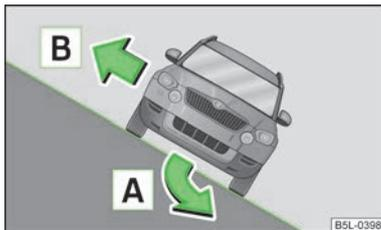

Fig. 137
If there is a risk your vehicle may tilt, steer immediately in direction of dip **[A]** and lightly depress the accelerator » Fig. 137.
If the vehicle comes to a standstill at a steep angle on a hillside and you and your passengers must exit the vehicle, then all the occupants should exit on the side facing up the hill **[B]** » Fig. 137.
- Before driving at an angle on a hillside **[A]** » Fig. 137, ensure that you can steer and maintain your trajectory. If you drive at an angle on a hillside and there is a risk your vehicle may tilt, steer immediately downhill on your trajectory and lightly depress the accelerator.
- In case the vehicle is stationary on a hillside at a steep angle, do not exit the vehicle when it is facing downhill. Always leave the vehicle carefully on the side facing downhill **[B]** » Fig. 137.